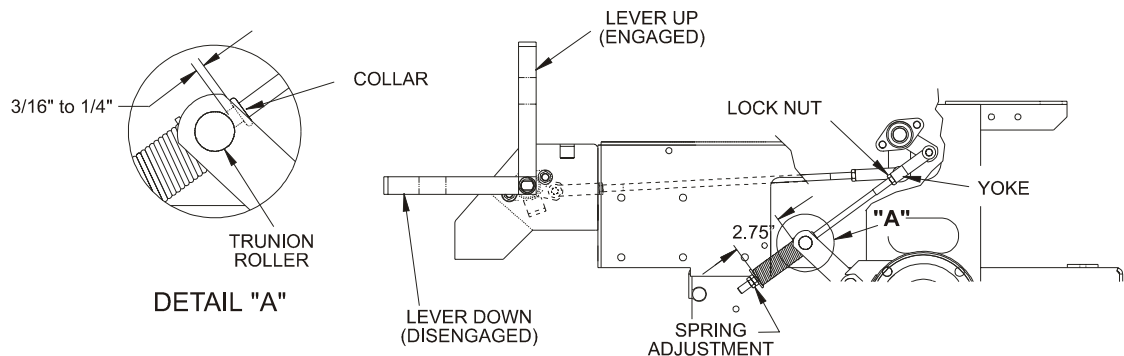

FIG. 8
- b) Measure the length of the spring. Measurement should be 2.75" between washers (see Fig 8).
- c) Measure the distance between the trunion roller and the rod collar as shown in Fig. 8A. Measurement should be 3/16" to 1/4" (See Fig 8). A 3/16" or 1/4" square key works well as a shim gauge.
- d) If adjustment is necessary, loosen the nut directly below the yoke. Turn the bottom nut (below washer) until the correct measurement is obtained (See Fig 8) turn nut clockwise to lengthen the gap (screws rod into yoke) and turn counter-clockwise to shorten the gap (screws rod out of yoke). Tighten nut against yoke and check opposite side of unit, repeat if necessary.